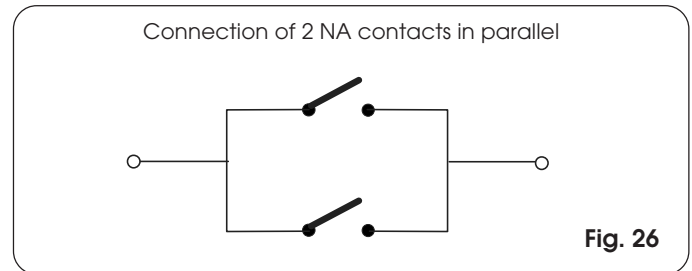

Fig. 26
**N.B.:** If two devices with N.A. contact have the same function, they must be connected to each other in parallel (Fig. 26).